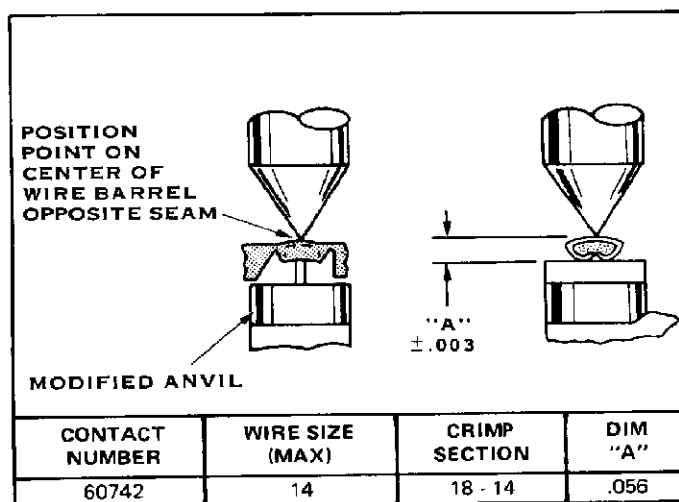

FIGURE II-2
1. Determine the maximum wire size and the applicable contact for the tool. See Figure II-2.
This inspection incorporates the use of a micrometer with a modified anvil as shown in Figure II-2. AMP does not manufacture or market these gages. We recommend the Crimp Height Comparator RS-10195-L which can be purchased from:
1. Select one of each of the contacts and the maximum wire size for each from the chart in Figure II-2.
3. Using a Crimp Height Comparator, measure each wire barrel crimp height as shown in Figure II-2. If the crimp height conforms to that shown in the chart the tool is considered dimensionally correct. If not, return the tool to AMP for evaluation and repair. (See Paragraph II-3).